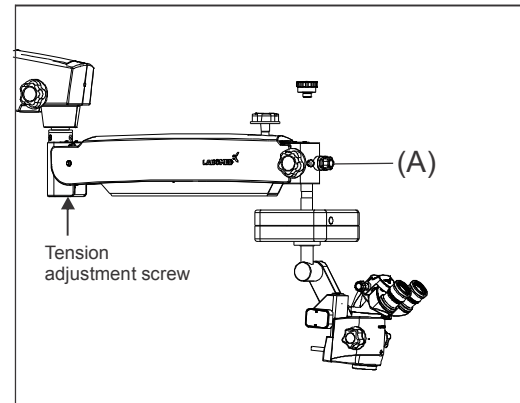

Fig. 11
Refer Fig. 11 to see the exact location of tension adjusting screw.
- 5 The illumination is controlled through the control knob (A), fig. 11. Rotate it clockwise or anti clock wise to achieve desired illumination level Functional setup keep it as minimum.